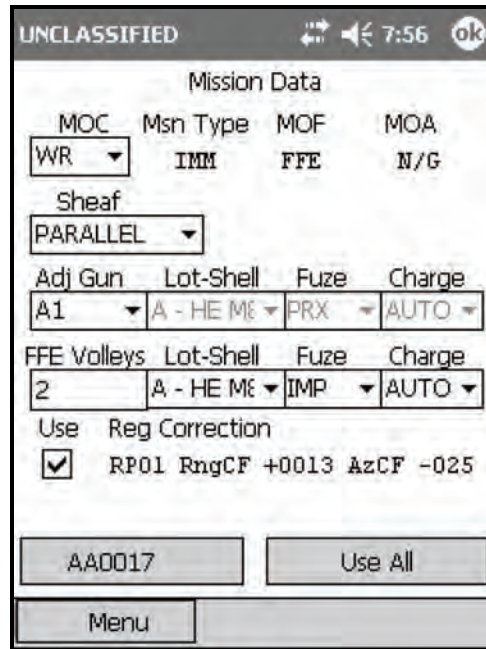

Figure 18-86. Immediate Suppression: Mission Data screen.
- (5) Select Use All.
- (6) The Mission Data screen displays with a default FFE Volleys of 2 rounds. The Lot-Shell defaults to HE (Figure 18-86).